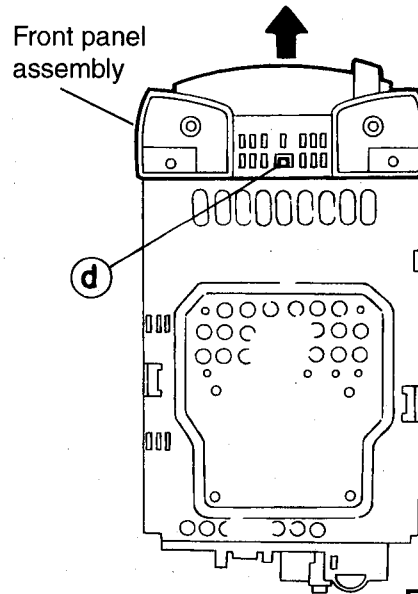

Fig. 12
(See Fig. 12)
6. From the bottom of the body, disengage the engagement ④ fixing the front panel assembly in Fig. 12 while pressing it with a minus screw driver, etc.